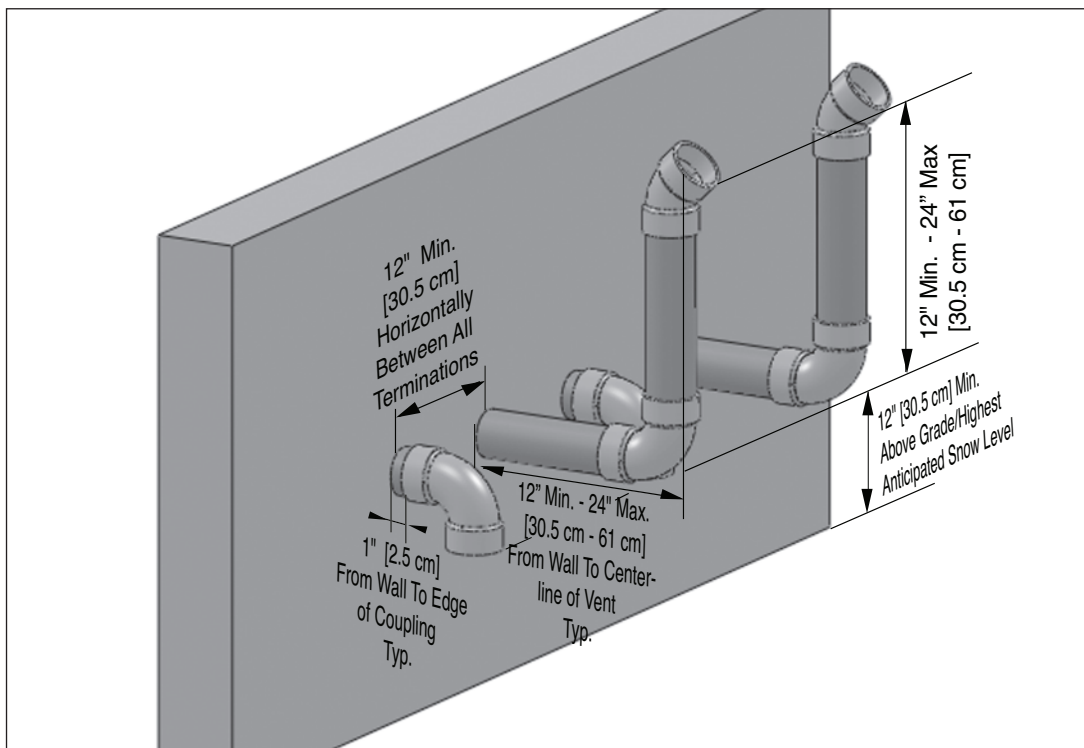

Fig. 15: Direct Vent - Horizontal Termination of Multiple Appliances
1. On installations of multiple CHALLENGER appliances, terminate each vent and combustion air pipe as shown in Fig. 15.
2. The wall penetration of the vent and combustion air pipe should be such that the combustion air inlet is a minimum 12" [30.5 cm] from the adjacent vent pipe of the other appliance for installations in the U.S as shown in Fig. 15. For installations in Canada, provide clearances as required by CAN/CSA B149.1.